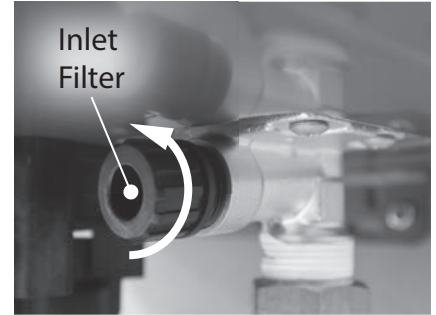

Figure 124 - Removing the inlet filter
- 15** Locate the screw securing the control board panel as shown in Figure 124. Use a Phillips screwdriver to remove the screw and place it aside in a safe place for reinstallation.